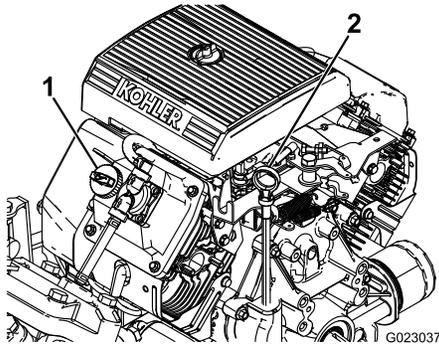

Figure 43
2. Remove the dipstick and wipe it with a clean rag (Figure 43). Insert the dipstick into the tube and make sure that it is seated fully. Remove the dipstick and check the oil level.
3. If the oil level is low, remove the filler cap from the valve cover (Figure 43) and pour oil into the opening until the oil level is up to the FULL mark on the dipstick. Add the oil slowly and check the level often during this process. Do not overfill.
8. Slowly pour approximately 80% of the specified amount of oil into the oil filler tube (Figure 43).